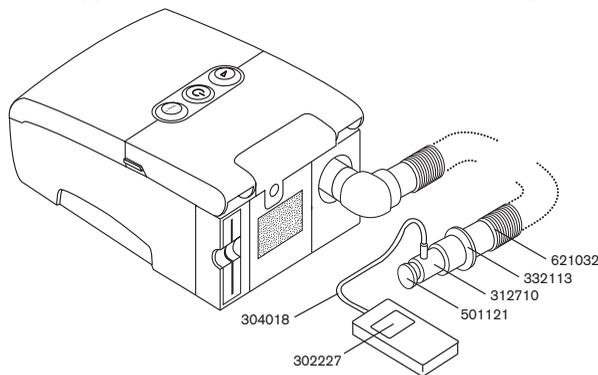

FIGURE 3–9 CONNECTING THE PRESSURE VERIFICATION EQUIPMENT
2. With the device unplugged, connect the system as illustrated in Figure 3–9.